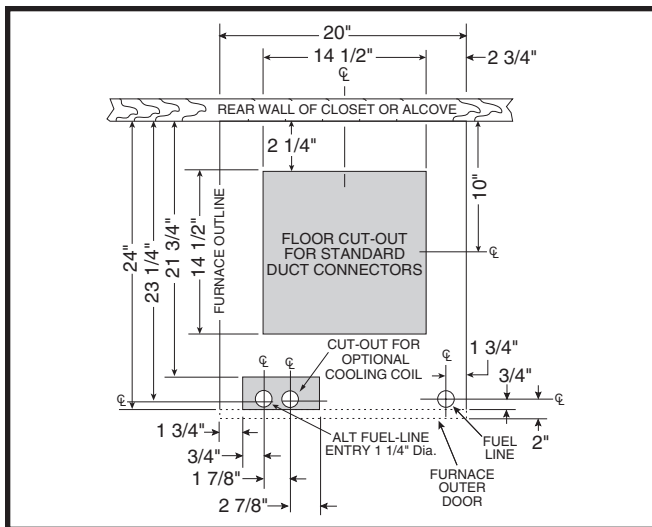
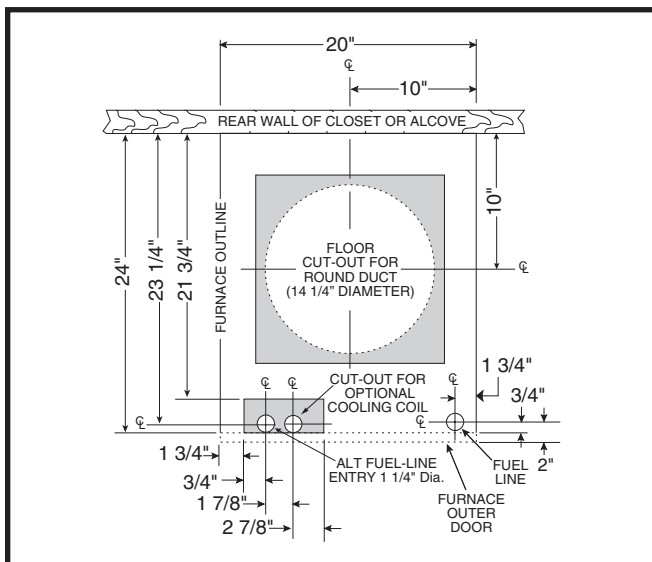

Figure 6. Cut-Out Dimensions for Standard Duct Connectors
Figure 7. Cut-Out Dimensions for Round Duct Connectors
Floor cut-outs and fuel line holes must be carefully located to avoid misalignment of the furnace, and vent piping. To locate standard ducts see Figure 6 \(page 8\). For round ducts, see Figure 7 \(page 8\).
2. Using the centerline as a starting point, draw the rest of the duct cut-out to the dimensions shown in Figure 6 or Figure 7.
6. Measure and drill gas hole and cut out for cooling coil (if applicable). See Figure 6 or Figure 7.